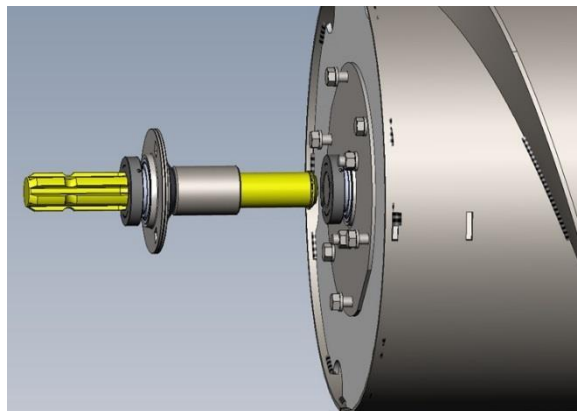

Figure 38
25. Install the end cap and shaft as shown in Figure 38